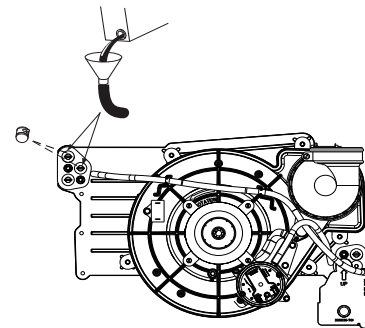

Fig. 63 – Priming Condensate Trap
1. Remove upper and middle collector box drain plugs opposite of the condensate trap. See Fig. 63.